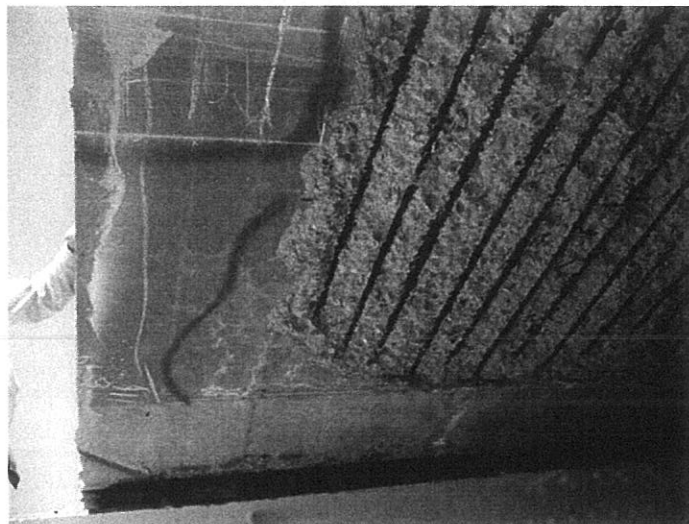

Figure 3
- (3) Figure 3 shows a removed concrete deck slab of a highway bridge, which was used in a cold mountainous region. Although the location of bridge is far from the ocean, severe deterioration due to rebar corrosion was found.